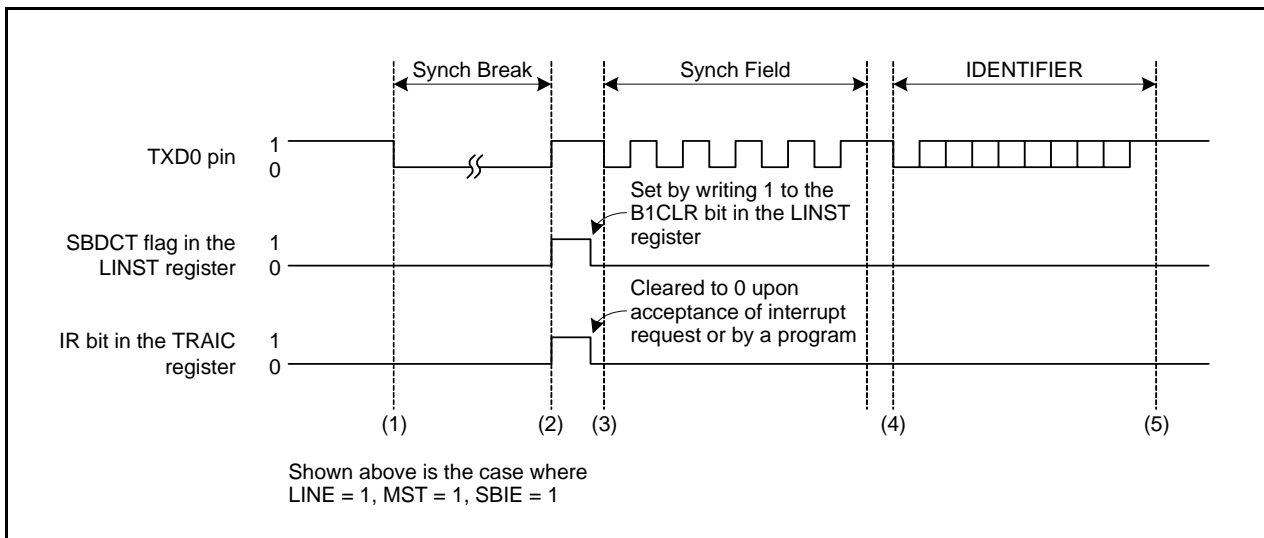
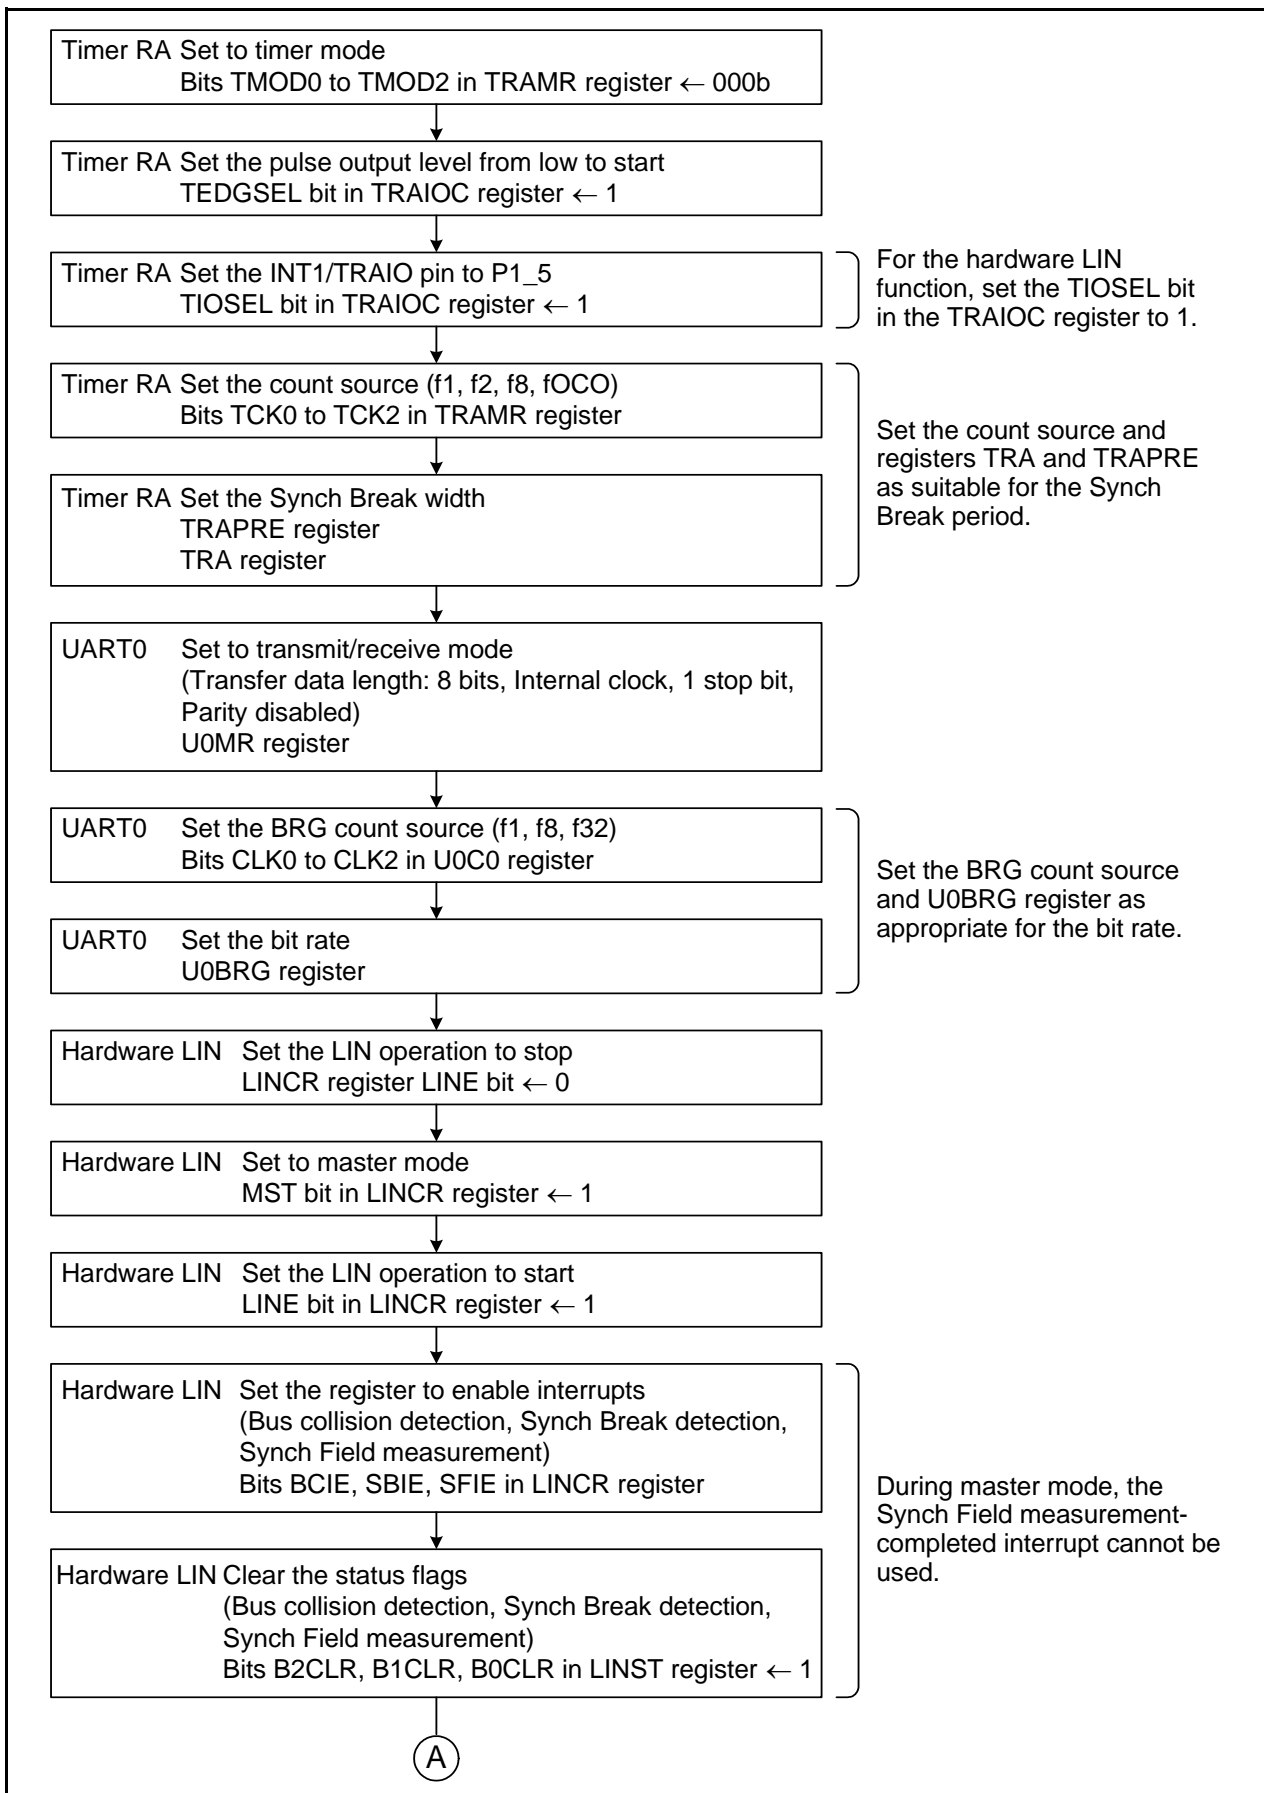

Figure 17.4 Typical Operation when Sending a Header Field
Figure 17.5 Example of Header Field Transmission Flowchart (1)
3. Inputs to timer RA and UART0 are prohibited immediately after this bit is set to 1. (Refer to **Figure 17.5 Example of Header Field Transmission Flow chart (1)** and **Figure 17.9 Example of Header Field Reception Flow chart (2).**)
Figure 17.4 shows typical operation of the hardware LIN when transmitting a header field in master mode. Figures 17.5 and 17.6 show an Example of Header Field Transmission Flowchart.